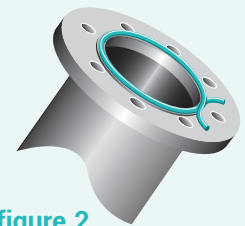

figure 2
- Use a sharp knife or a pair of scissor to cut away the excess material, leaving 1 cm protruding material (figure 2).